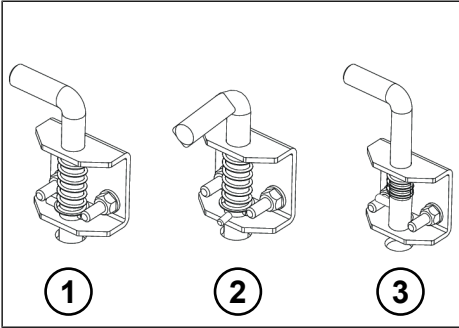

Fig. 8-49: Locking positions for retainer bolts
- ▶ Move the retainer bolt on the transverse beam to Position 2 (see "Fig. 8-49: Locking positions for retainer bolts", pg. 170).
- ▶ Move the retainer bolts to Position 1 (see "Fig. 8-49: Locking positions for retainer bolts", pg. 170).
- ▶ Move the retainer bolts for the posts on the transverse beam to Position 2 (see "Fig. 8-49: Locking positions for retainer bolts", pg. 170).
- ▶ Move the retainer bolts for the posts to Position 3 (see "Fig. 8-49: Locking positions for retainer bolts", pg. 170) so that the posts are seated in the transverse beam up to the stop.
- ▶ Move the retainer bolts for the posts to Position 1 (see "Fig. 8-49: Locking positions for retainer bolts", pg. 170).
- ▶ Move the retainer bolts for the posts to Position 3 (see "Fig. 8-49: Locking positions for retainer bolts", pg. 170).
- ▶ Move both retainer bolts on the transverse beam to Position 3 (see "Fig. 8-49: Locking positions for retainer bolts", pg. 170).